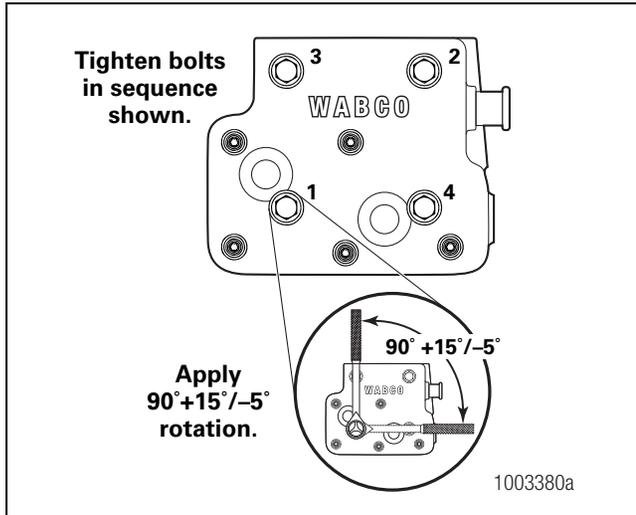

Figure 3.9
5. Install the four hex-head mounting bolts that hold the cylinder head in place. Tighten the mounting bolts in sequence (1 - 2 - 3 - 4) to 18.5 to /-2.5 lb-ft (25 to /-5 N•m). Then, apply  $90^\circ +15^\circ/-5^\circ$  rotation to the four cylinder head bolts. Use an angular gauge to check the rotation. Figure 3.9.